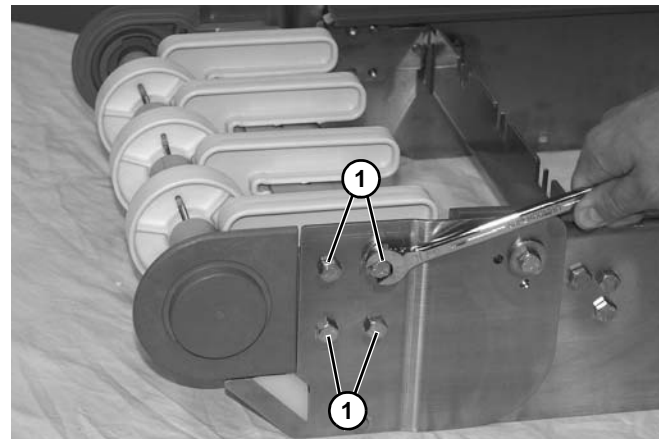

Figure 52
2. Remove four headplate screws (**Figure 52, item 1**). Repeat on opposite side of the conveyor.